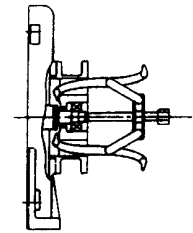

Fig. 11
- (1) Remove belt ⑳, and remove blower pulley ㉓. (See “12. Instruction for belt tension Adjusting and/or belt Replacing”)
- (2) Remove the bare blower from the base. Stand the blower on a stand with the inlet side up. (Be careful not to tip over the blower during the work.)
- (3) Remove bearing cover ㉑ and packing ㉒.
- (4) Remove bearing nut ㉔ and bearing washer ㉕.
- (5) Remove the screw holding bearing box (inlet side) ㉖, pull out both bearing ㉗ and bearing box (inlet side) ㉘ together. (Fig.11)
- (6) Pull off bearing ㉗ from bearing box (inlet side) ㉘. (Tapping bearing ㉗ with a hammer-handle from backside will help for easy removal.)
- (7) Remove fan case fastening bolts ㉙, and remove fan case (C) ㉚.
- (8) Remove fan stopper nut ㉛ and fan stopper washer ㉜.
- (9) (MLB-1503,2003·GLB-1505,2005) Remove end collar ㉝ and wave washer ㉞.
- (10) Remove fan ㉟, deflector ㊱, fan case (B) ㊲ through the last fan in this order.